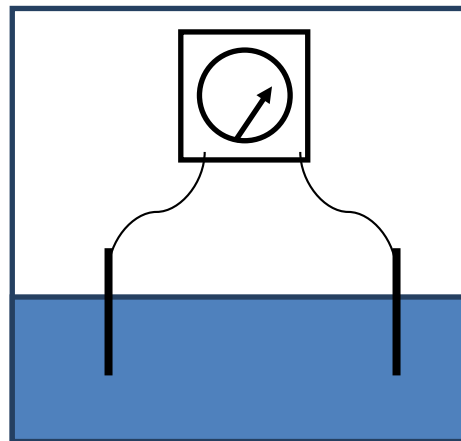

Figure 1. A simple conductivity testing setup.
Figure 1 shows a simple conductivity probe setup.
3. Figure 1 (on the previous page) shows a ready-made conductivity sensor with two probes immersed into a solution. What types of materials should the probes be made of? Explain why.